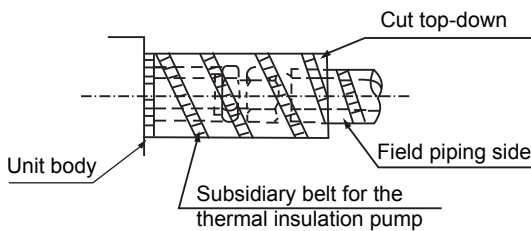

Fig.7-7
- Insulate all exposed parts of the flare pipe joints and refrigerant pipe on the liquid side and gas side. Ensure that there is no gap between them. (Refer to Fig.7-7)